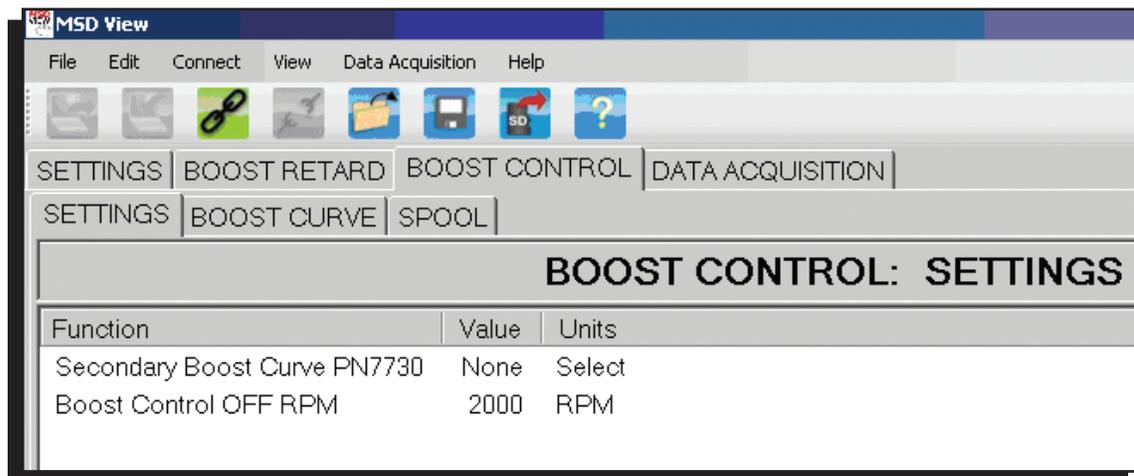

Figure 7 Boost Control: Settings
**SECONDARY BOOST CURVE:** Determines which wire from the Power Grid Controller PN 7730 will enable the secondary Boost Curve. The default setting is “NONE,” but the selections can be either “STEP 3” (TAN) or “STEP 4” (LT/GRN), and refers directly to the retard activation wires from the Power Grid Controller PN 7730. (Figure 7)
**BOOST CONTROL OFF RPM:** The solenoids will NOT activate unless engine RPM is above this setting. The default setting is 2000RPM and can be adjusted from 0RPM to 10000RPM. (Figure 7)